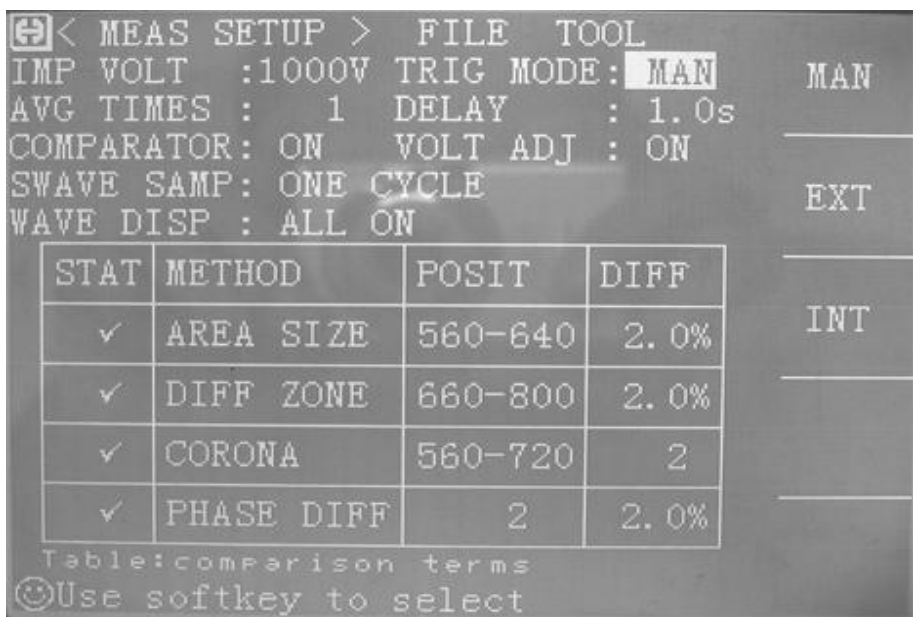

Figure 2-6 **TRIG MODE** Field on MEAS SETUP Page
- 3) Press key to move the cursor to the **TRIG MODE** field, the following page will be displayed as shown in figure 2-6.